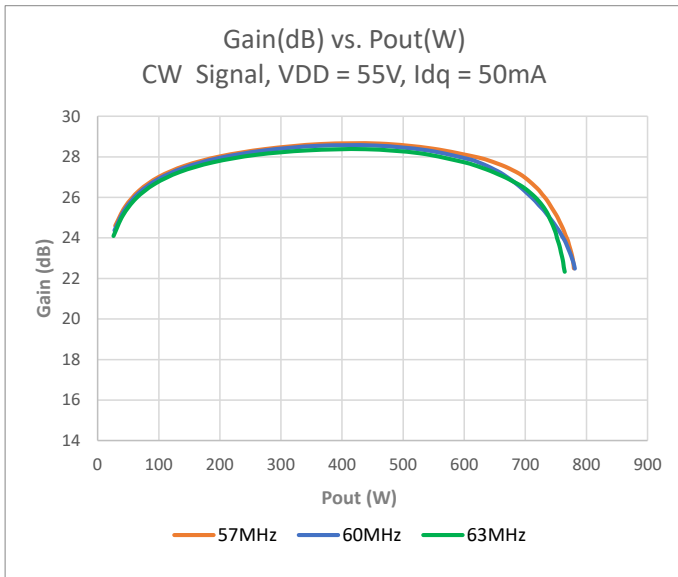

Figure 7 Gain(dB) over output power (W), CW signal, VDD = 55V, Idq = 50mA
- Figure 7 Gain(dB) over output power (W), CW signal, VDD = 55V, Idq = 50mA 9